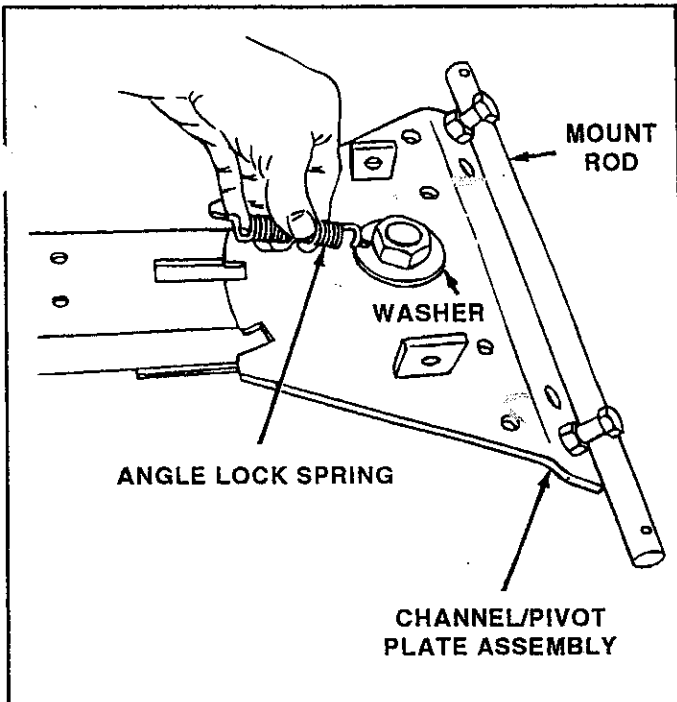

FIGURE 2
1. Assemble curved end of angle lock spring into small hole in washer as shown in figure 2.